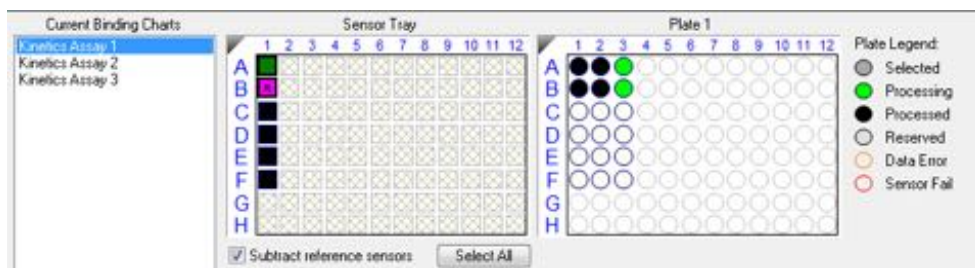

Figure 8-59: Subtract Reference Sensors check box in the Runtime Binding Chart
The selected biosensor will be shown with an **R** in the **Sensors to Chart** list and **Sensor Tray** (see Figure 8-59).
2. Click the **Subtract reference sensors** check box (see Figure 8-59).